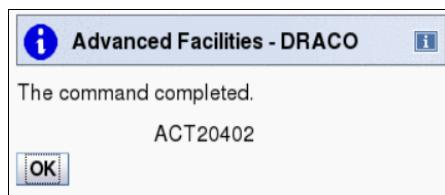

Figure 7-19 Export source file completed
- The HMC task writes the source file for the PCHID that was selected onto the media device and displays a message when it completes (Figure 7-19). Click **OK**.